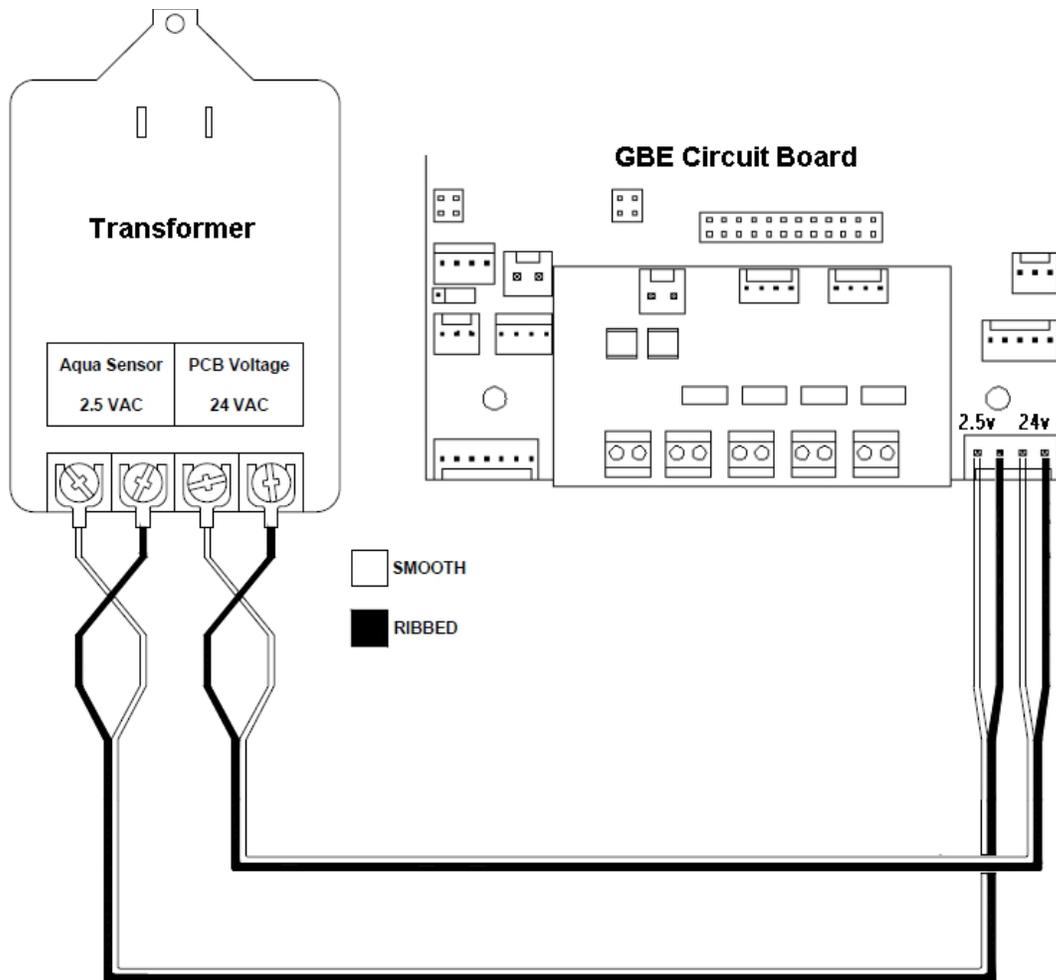

Figure 13. Transformer and Smart Controller circuit board.
6. Plug the board connector to the board where it is labeled 24 V. The connector has four (4) connections but only two wires are connected. The other end of the power cord (with spade terminals) should be connected to the two 24 VAC terminals on the transformer (see Figure 13).
CAUTION! To eliminate the possibility of polarity issues, carefully follow the wiring details shown in Figure 13.
1. Connect one wire from the 24 V cable to the outermost 24 VAC transformer screw terminal (see Figure 13). The other end of the wire should be connected to one of the 24 V terminals on the Smart Controller circuit board (Figure 13) by way of the white connector.